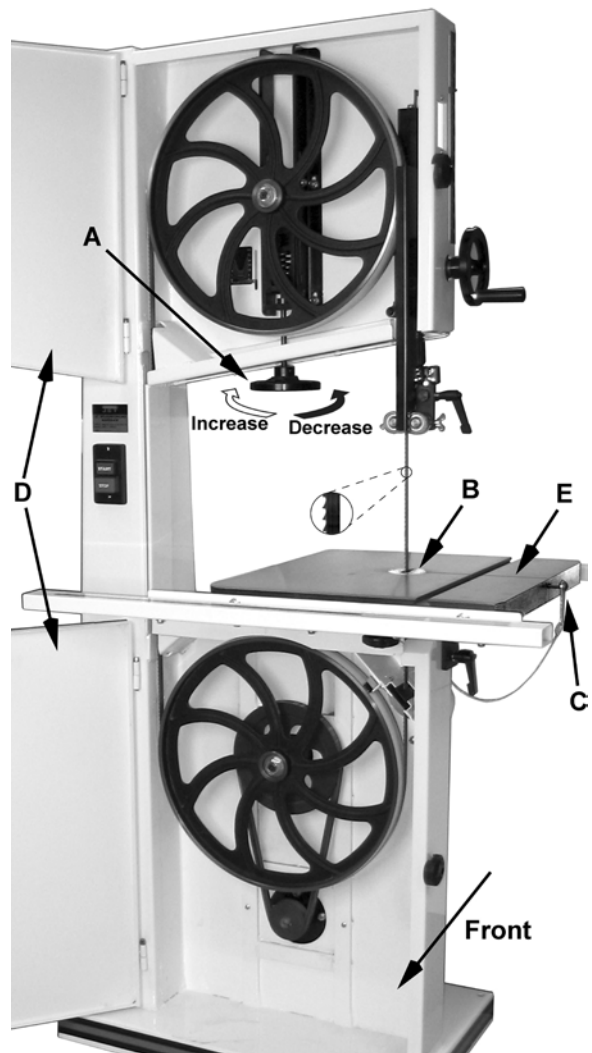

Figure 17
2. Decrease blade tension by rotating the *blade tension handwheel* (A, Fig. 17) according to the arrow direction in until the handwheel stops.
3. Remove the *table insert* (B, Fig. 17).
4. Remove the *tapered pin* (C, Fig. 17) by using the wrench attached with the pin together.
6. Open *upper and lower front doors* (D, Fig. 17).
8. Guide new blade through *table slot* (E, Fig. 17). Place blade in upper and lower blade guides.
Note: Make sure blade teeth point down toward table (see inset, Fig. 17), and toward the front of the saw.
10. Replace the *table insert* (B, Fig. 17) and *tapered pin* (C, Fig. 17).